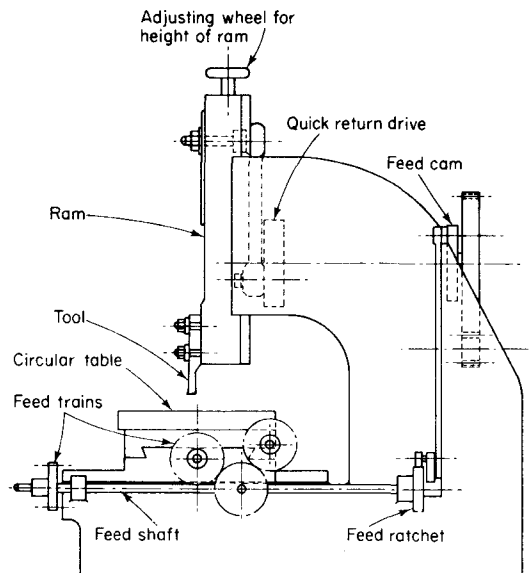

Fig. 4.216 The slotting machine
**The slotting machine.** This machine is, in effect, a vertical shaping machine. It is used for machining the internal surfaces of forgings and castings and for profiling large plates. The main parts of the slotting machine are shown in Fig. 4.216.